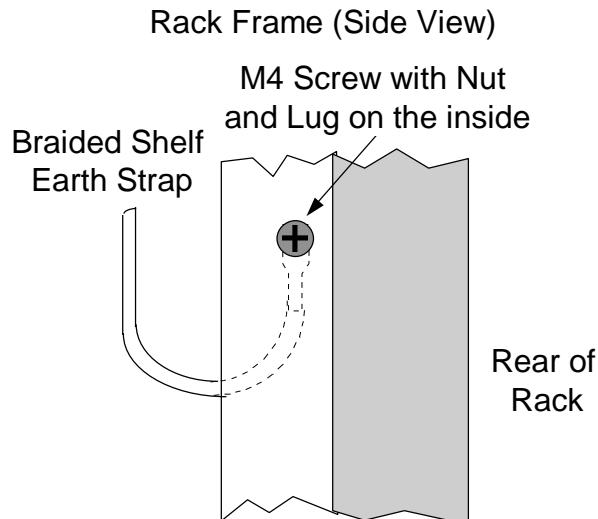

Figure 1-4. Shelf Earth Connection
- c) Remove the DC cable plug to the DC input socket PL6 and remove the crimped cable screen earth to the lug positioned alongside PL6. See Figure 1-4.
- f) Remove the braided earth strap to the frame using a M4 screw and M4 nut as shown in Figure 1-4.
b) Connect the braided earth strap to the frame using a M4 screw and M4 nut as shown in Figure 1-4.
6. Connect DC cable plug to the DC input socket PL6 and connect the crimped cable screen earth to the lug positioned alongside PL6. See Figure 1-4. The shelf power cycles and sets itself into service.